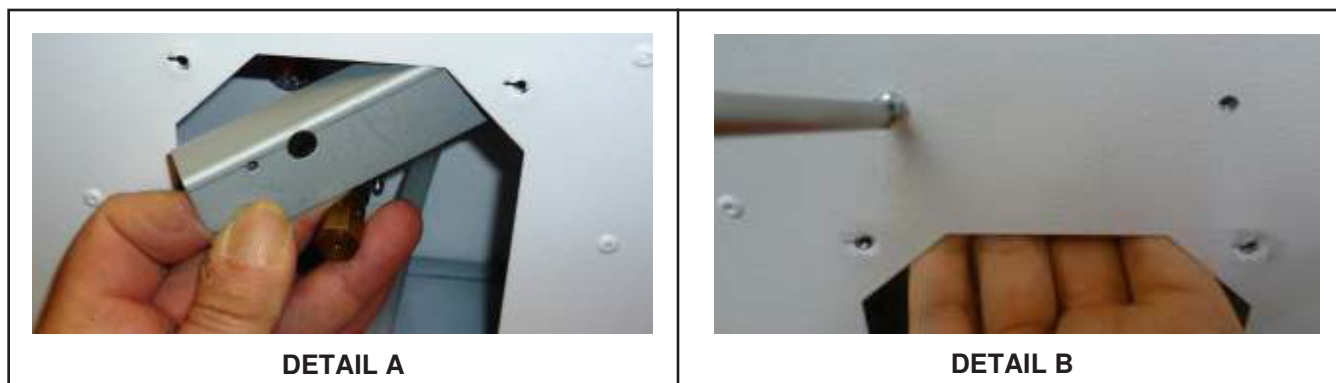

Figure 9. Baffle Plate Installation
- a. Carefully position baffle plate inside combustion chamber as shown in Figure 9, DETAIL A.
- b. Align baffle plate holes with existing holes in burner cabinet and secure plate using two baffle plate screws as shown in Figure 9, DETAIL B.